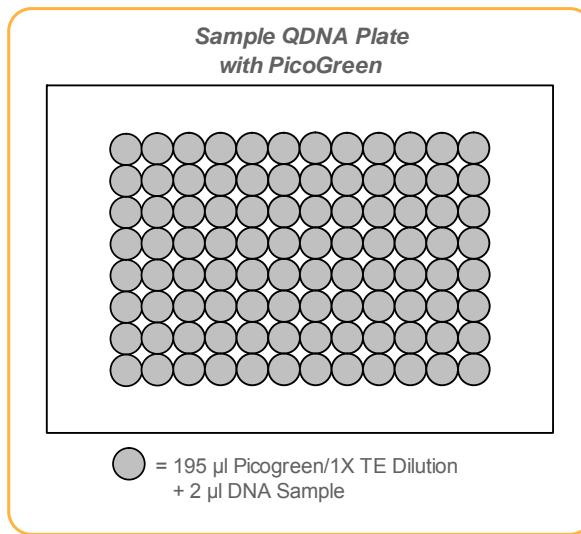

Figure 83 Sample QDNA Plate with PicoGreen
1. Transfer 195 µl of the PicoGreen/1X TE dilution that you made earlier into each well of the new black flat-bottom plate labelled "Sample QDNA" (Figure 83).